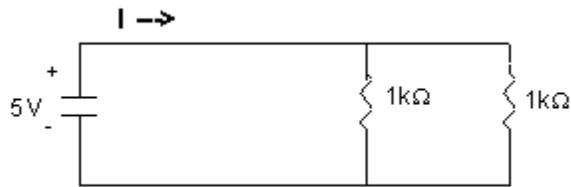

Figure 2. Parallel resistor circuit.
6. Assemble the circuit shown in Figure 2. **Q5:** How much current do you expect to flow through each resistor? Using the DMM in its current mode, measure the total current I and the current through each resistor. Do your results make sense?